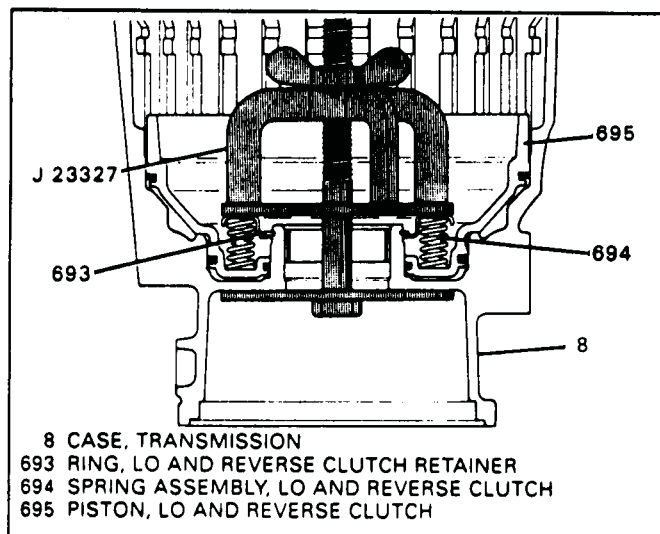

Figure 54
68. Install clutch spring compressor tool J-23327 as shown in Figure 54.